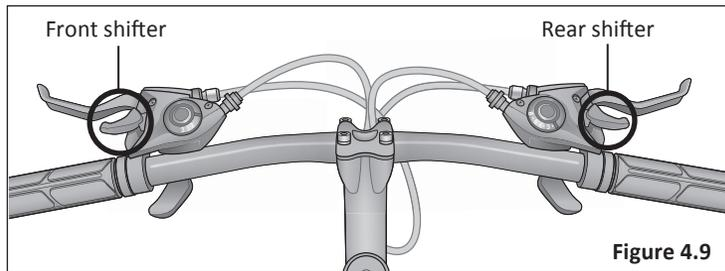

Figure 4.9
- 1 Begin by shifting the rear shifter to largest number indicated and place the chain on the smallest sprocket. **Figure 4.9**